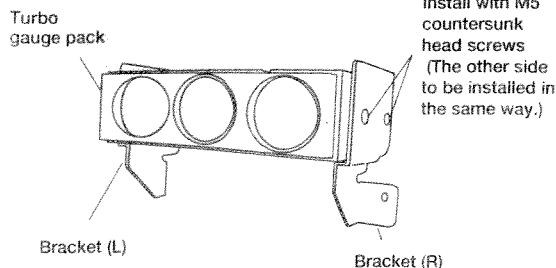

Figure 5-5
5. Install the brackets (L and R) to the Turbo Gauge Pack using the M5 countersunk head screws provided with the product. (Figure 5-5) Be careful not to confuse bracket L with bracket R. (Tightening torque $0.5 \pm 0.1 \text{ N} \cdot \text{m}$ ($0.37 \pm 0.07 \text{ ft} \cdot \text{lb}$)).